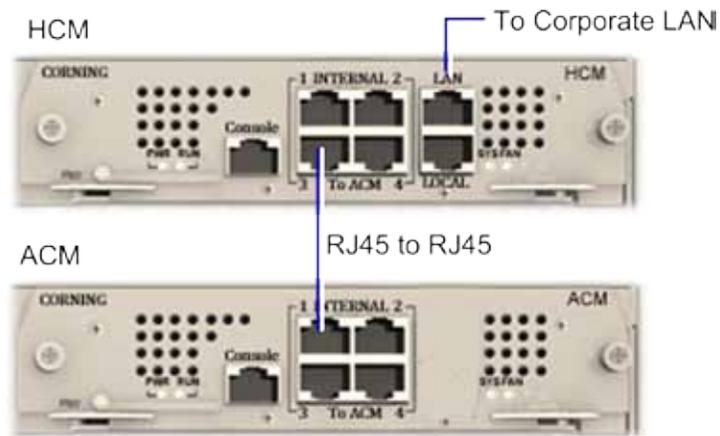

Figure 5-32. Direct OIU to HEU Management Connection and ACM LEDs
- Referring to Figure 5-32- for configurations with one HCM and up to four ACM modules (e.g. one HEU and four OIU units), directly connect: